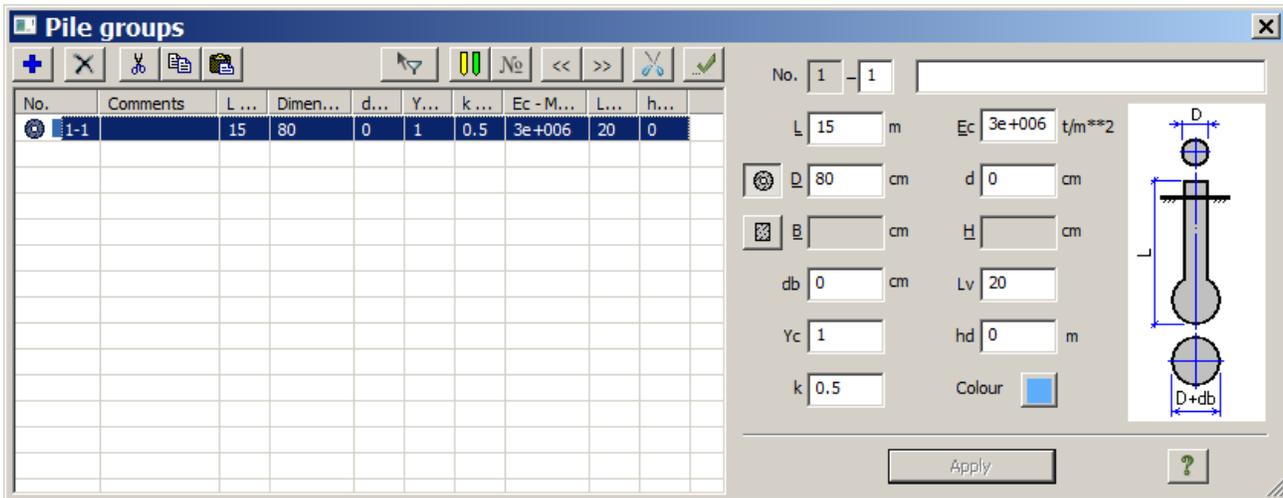

Figure 22.10 Pile groups dialog box
- ⇒ In the **Pile groups** dialog box (see Fig.22.10), click the **Pile of circular cross-section** button and define the following parameters for piles: